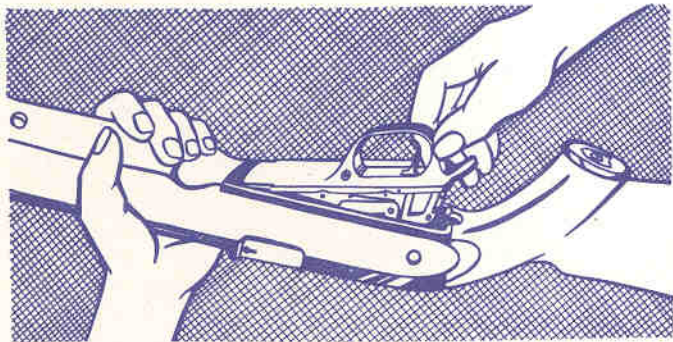

Figure 3
**TO REMOVE TRIGGER ASSEMBLY:** (Do only when necessary). Turn the gun upside down, remove trigger guard retaining screw. Grasp trigger guard and pull up and toward the butt stock. Trigger guard assembly will come free of the receiver as a unit. See figure 3.
**TRIGGER ASSEMBLY:** Remove inside magazine tube. Pull retracting handle back half way, and making sure that hammer is in cocked position (see figure 6.) replace trigger assembly by inserting lug on front end of trigger assembly to mating slot inside forward end of receiver. Holding gun in upside down position (see figure 3.) press down and forward against rear portion of trigger guard until it is fully home and seated. If it does not immediately drop into position, work retracting handle short distance back and forward. Insert and tighten trigger insert retaining screw, work the action by pulling back on the action bar handle to make sure that bolt functions. The gun is now completely re-assembled.